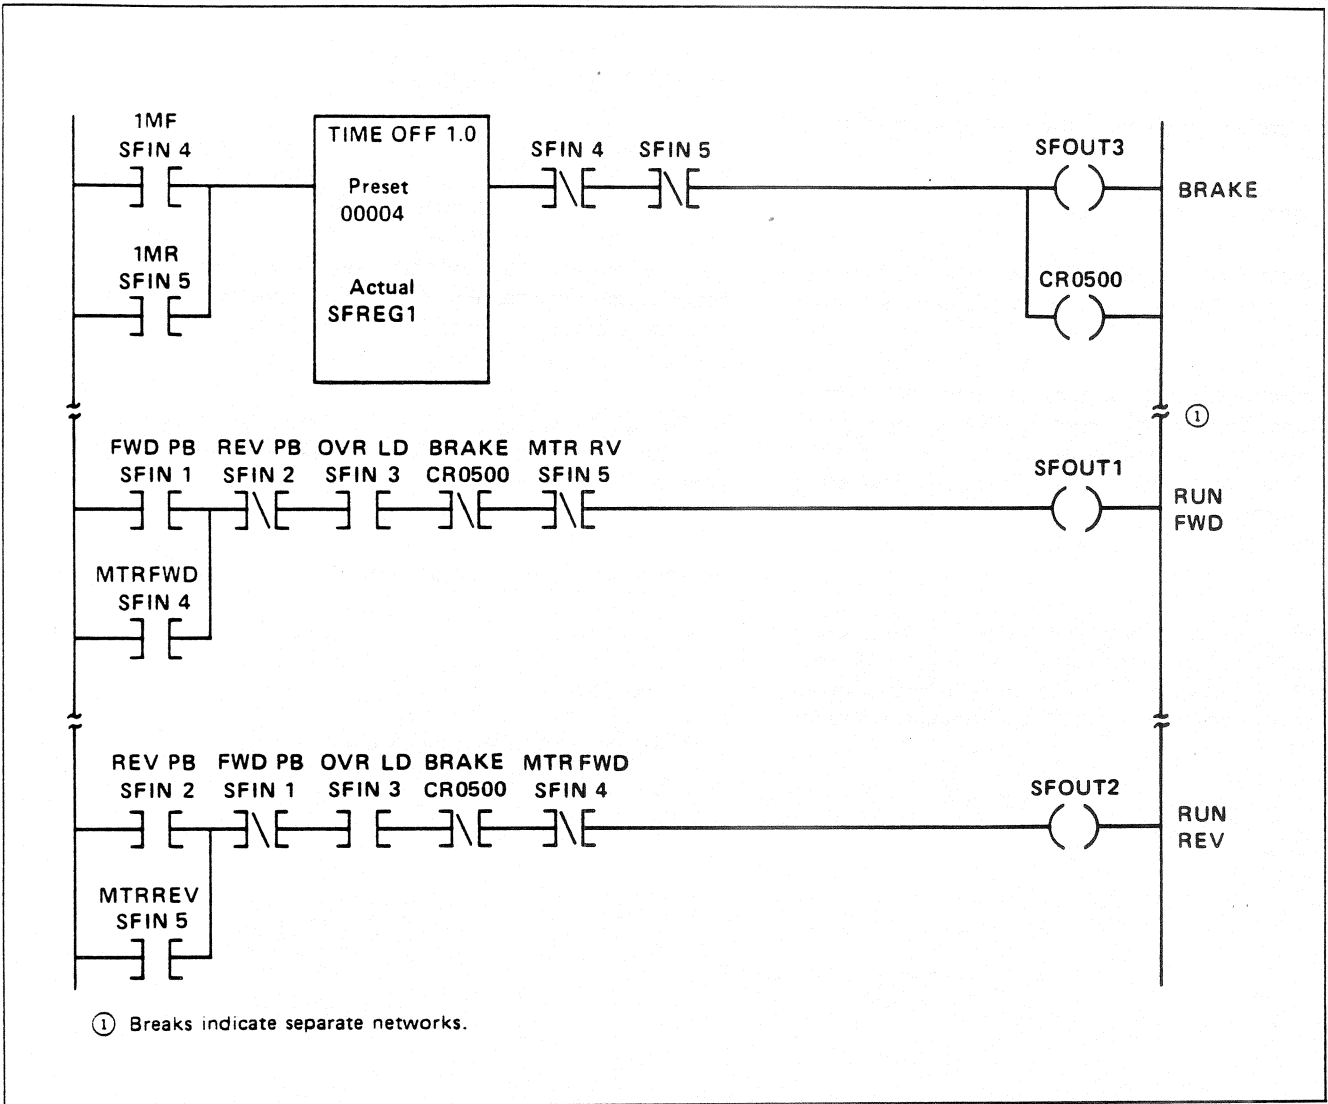

Figure UDSF-4. Motor Starter Subroutine
The UDSF motor control subroutine is shown in Figure UDSF-4. Observe the Figure and note the following 3 points:
3. When programming the UDSF subroutine, contacts addressing SFOUT coils cannot be directly entered. Use a CR coil in parallel with the SFOUT coil, as shown with coil CR0500 in Figure UDSF-4.
4. If more than 5 inputs, 5 outputs, or 7 registers are needed by the UDSF subroutine, simply transfer the data to a specially designated area (scratchpad) in networks immediately before the UDSF block. For example, the same conduction path used to enable the UDSF block is used to enable a Block Move function (076) to transfer a block of registers for use by the UDSF subroutine.
- UDSF block (See item 5, above.)